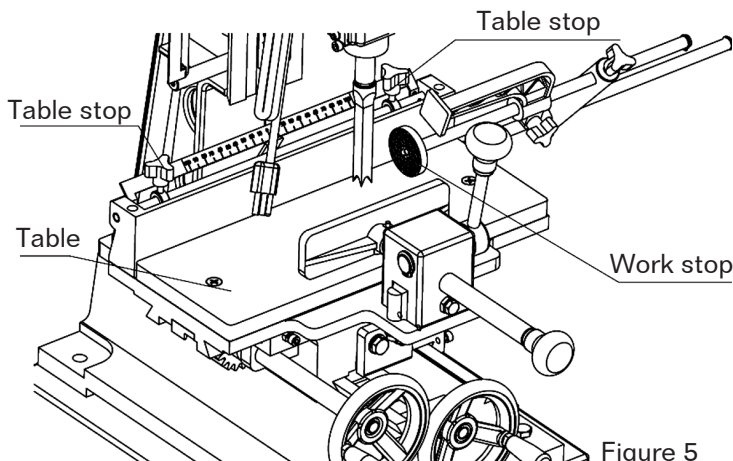

Figure 5
3. Adjust the table stops, Figure 5, according to the length of cut required, then tighten the thumb screws